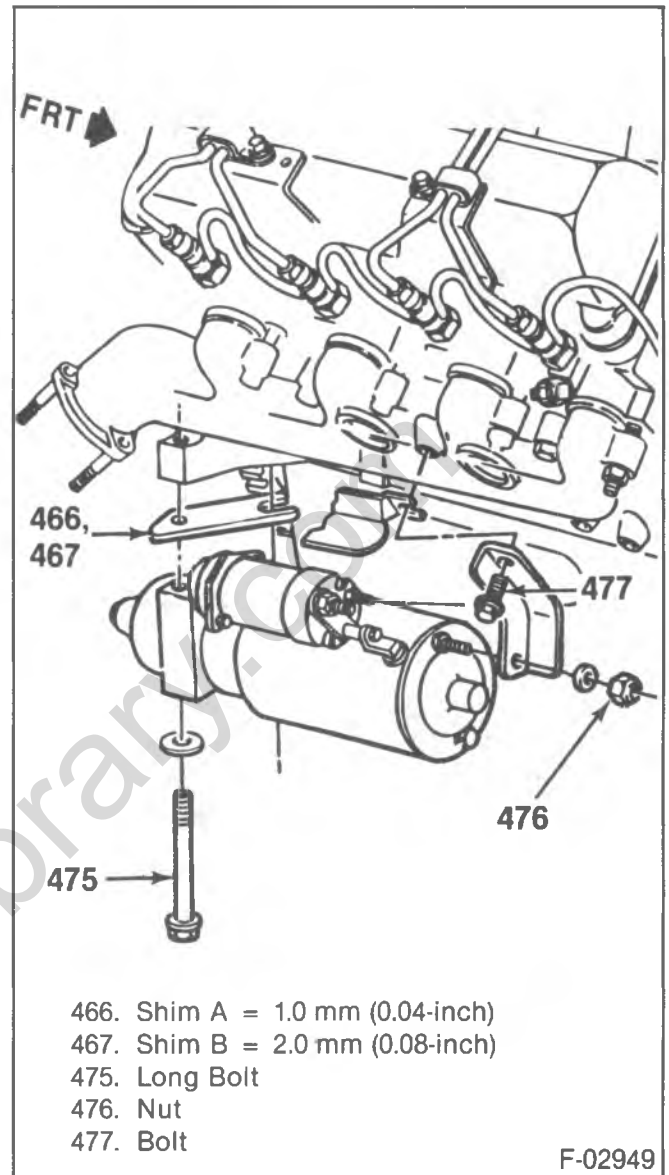

Figure 31—Shimming Diesel Engine Starter Motors
Refer to the starter noise diagnostic chart. Starter shims are shown in figure 31 and 32.
- Diesel engine (figure 31):
2. Diesel engine starter motor (figure 31):